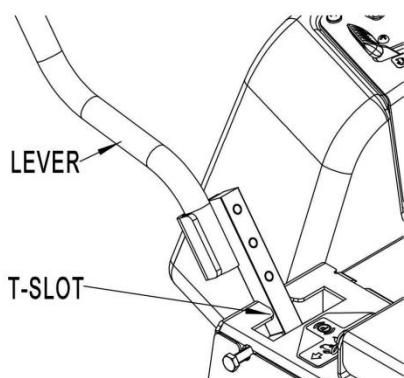

Fig. 7
- When the steering levers are centered in the T-slot, the drive system is in the neutral lock position. Place both steering levers in swing-out neutral lock position, the drive system is in the parking brake position. See Fig. 7.